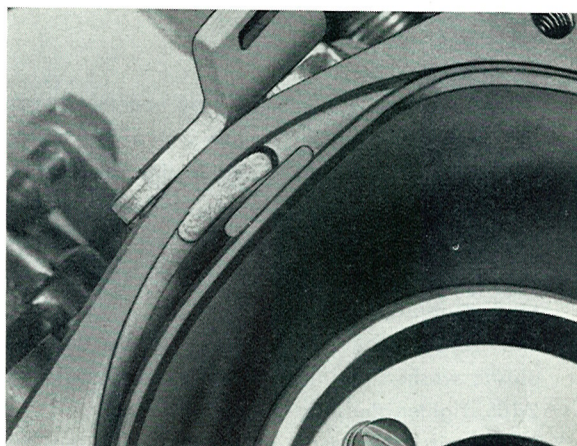

Fig. 2-103. Diaphragm in carburettor housing
4. Move the air valve down and fit in the rubber register as shown in Fig. 2-103. Fit the cover and fill with damper oil.